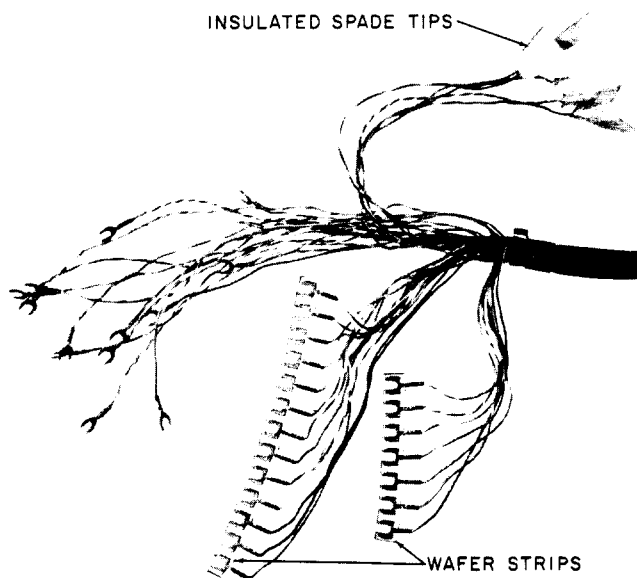

Fig. 2—Slotted Wafer Strip End of Mounting Cord, Later Type
**2.08** Mounting cords of later manufacture feature a slotted wafer strip (Fig. 2) to facilitate replacement.